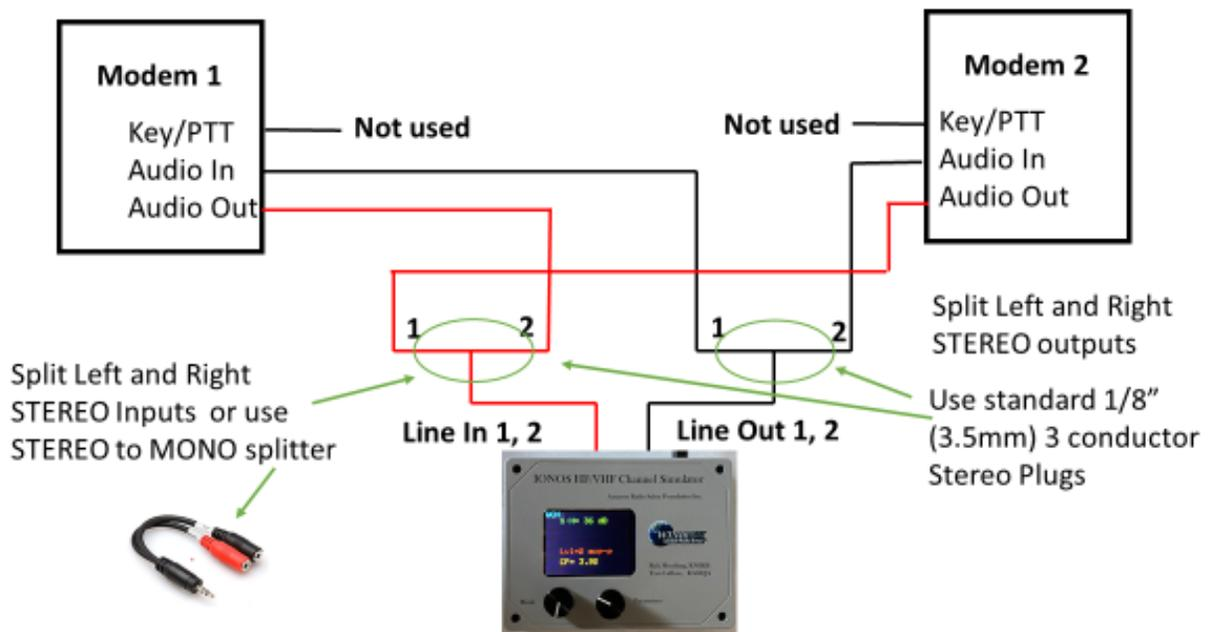

Fig 7. Basic Half Duplex, symmetric channel setup with one IONOS SIM.
4.0 Basic Setup and Connections for using the Simulator. The simulator can be used to model the paths for non ARQ (one direction) or ARQ half-duplex or full duplex connections. With its' internal audio CH1 and CH2 mixing a *single IONOS SIM* can handle *both* directions of a half-duplex ARQ connection providing symmetric channel modeling (same channel model for Modem 1 to Modem 2 and Modem 2 to Modem 1). Figs. 7 and 8 show the connections for both half duplex and full duplex channel modeling.